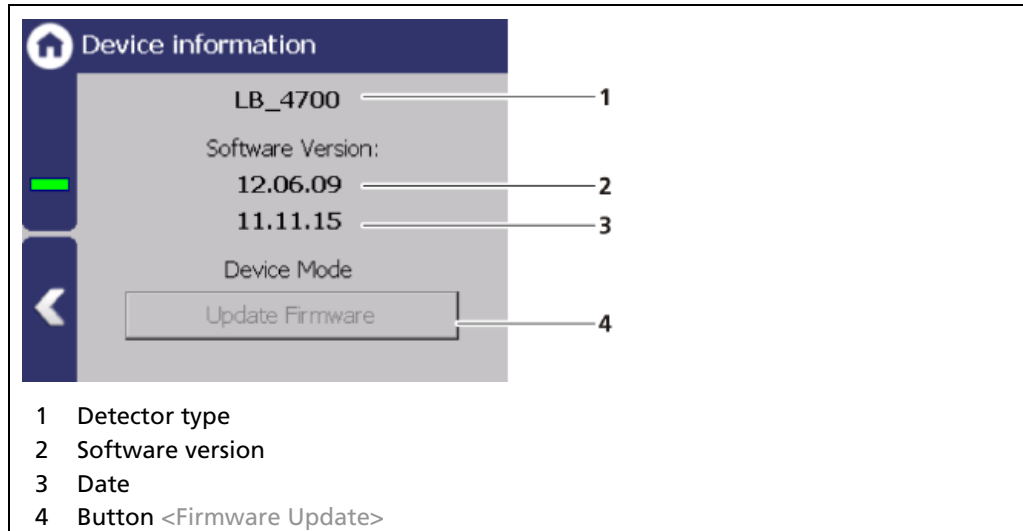

Fig. 58 Device information
This window shows you the type of detector (Fig. 58, item 1) as well as an overview of the software version (Fig. 58, item 2, item 3) of the detector.
3. The USB storage device is recognized by the system after a few seconds and the < Update Firmware > (Fig. 58, item 4) button can be clicked.
4. Click on the button < Update Firmware > (Fig. 58, item 4).
- ▶ A warning message appears (Fig. 58, item 5).